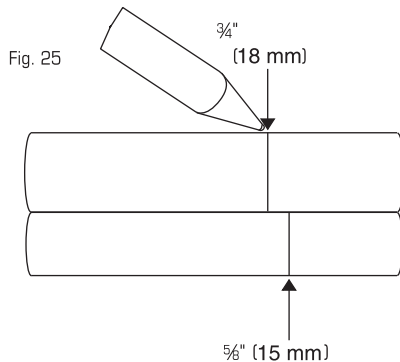

Fig. 25
4. Lay the red tube from the Pressure Regulator Assembly on the top of the diagram, and lay the blue tube on the bottom. Use a pen to mark them at the arrows (Fig. 25). (These ends will connect to the Carbon Water Treatment System).
5. a) Lay the unmarked end of the blue tubing on the top of the diagram and mark a line at 3/4" (18 mm). (Fig. 25).
b) Lay the tube from the cold water supply on the top of the diagram and mark a line at 3/4" (18mm) or at arrow (Fig. 25).